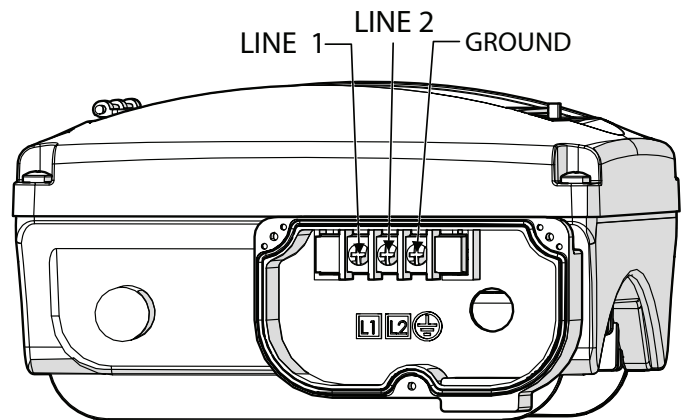

FIGURE 3
4. Make the required wiring connections inside of this wiring compartment per the National Electric Code and any required local codes. See Figure 3 for connection locations.